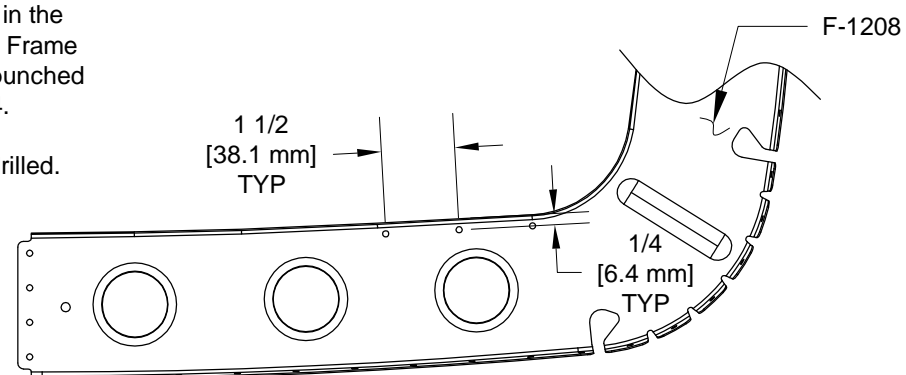

FIGURE 2: FUSELAGE FRAME TIE WRAP LOCATIONS
Step 3: Drill #30 three holes in the web of the F-1208 Fuselage Frame for tie wraps (if not already punched in part). See Figures 2 and 4.